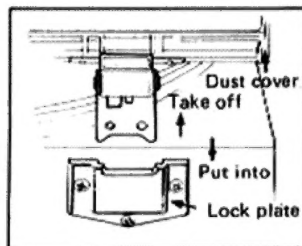

Fig. 2
1. Take off the dust cover from the lock plate. (Fig. 2)
6. Put the dust cover into the lock plate. (Fig. 2)